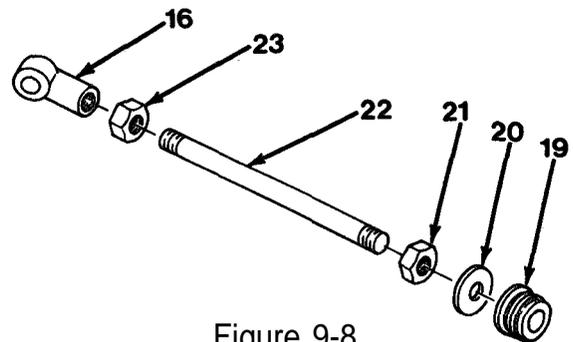

Figure 9-8
4. Install two nuts (21), retainers (20) and mounts (19) on one end of studs (22), and nuts (23) and rod ends (16, Figure 9-8) on other end of studs (22).